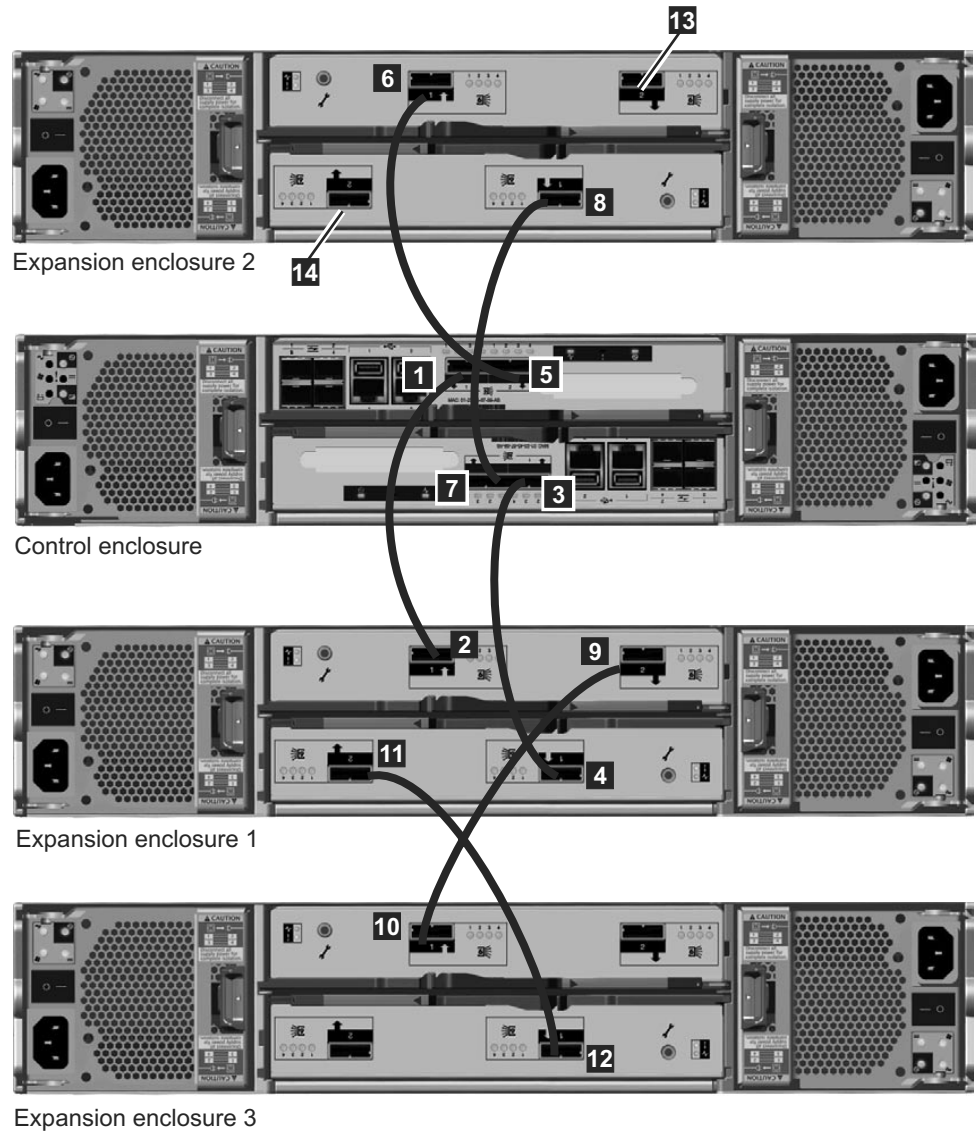

Figure 47. Attaching SAS cables to the enclosures
4. Attach the SAS cables from the first expansion enclosure to the third expansion enclosure. See Figure 47 on page 57.